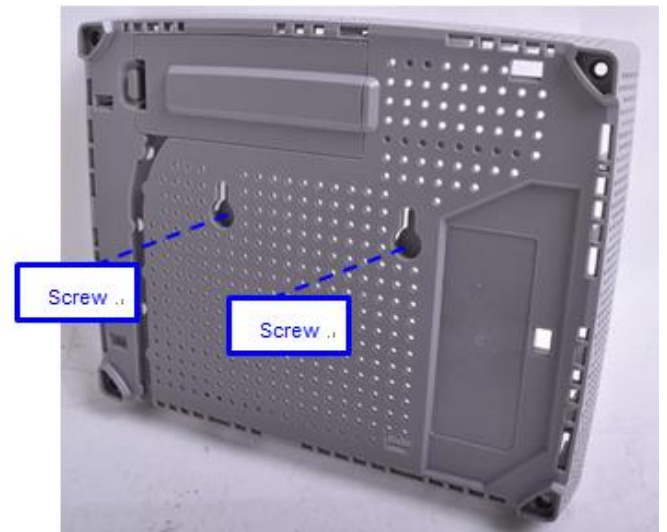

Figure 7. Place Ø3.5*30L Screws
3. Install two Ø3.5*30L Pan Head screws. Leave approximately 1/4-inch (0.6 cm) protruding from the mounting surface. Refer to Figure 7.